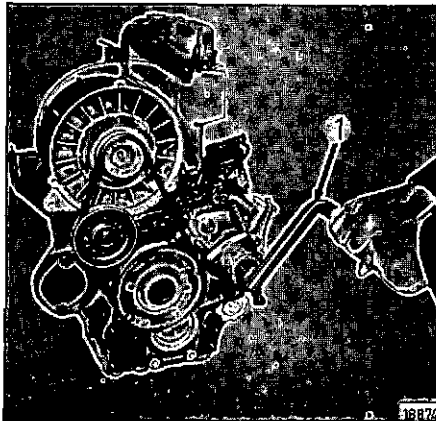

Fig. 12
4. Now turn crank handle 1 (Fig. 12) briskly until decompression shuts off automatically and the engine starts firing.